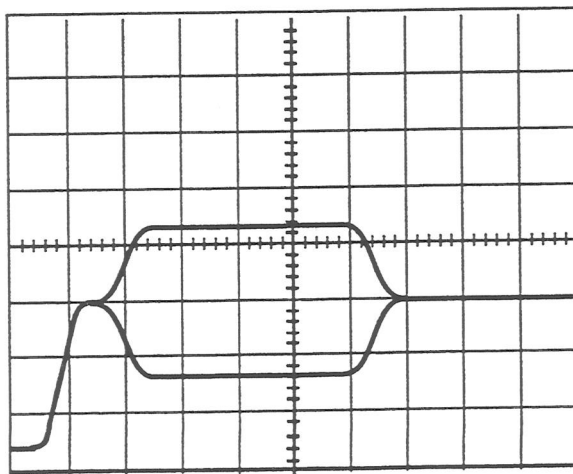

figure 15
- Reduce the sweep speed again (18) to 0.5  $\mu\text{s}/\text{div}$ . The burst now spans the entire screen and can be examined in detail (figure 15). Note that the sweep start position is unchanged with respect to the signal. It can be tuned even further using the DELAY control (25).